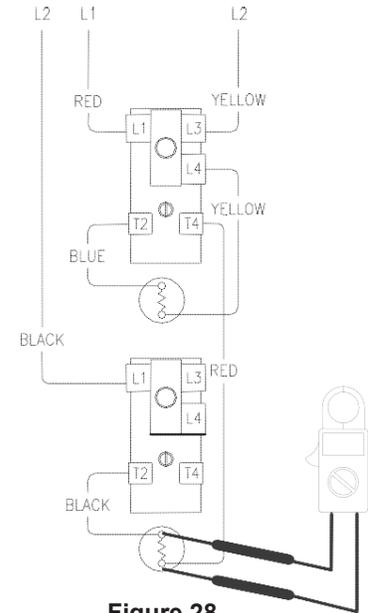

Figure 28
8. Check voltage across lower element (see Figure 28).